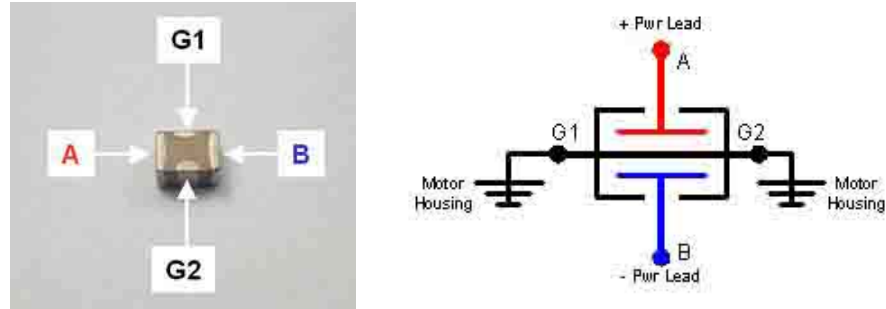

Figure 1. X2Y® made of ceramic (*left*). X2Y® schematic symbol (*right*).
- A. X2Y® is a four terminal device. The terminals are identified as A, B, G1 and G2 (*left* Figure 1). A and B are connected across the power leads and G1 and G2 are attached to ground (*right* Figure 1). (For DC motors, ground would be the motor housing.)